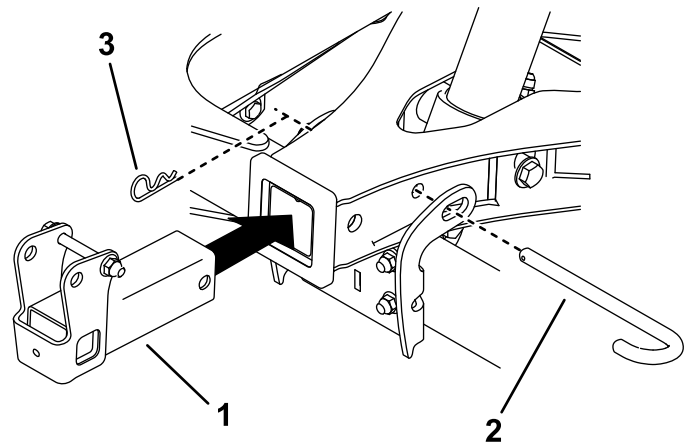

Figure 10
- Remove the hitch pin and cotter pin from the A-frame and use it to install the hitch receiver (Figure 10). Ensure that the pin locks the A-frame to the cross tube.